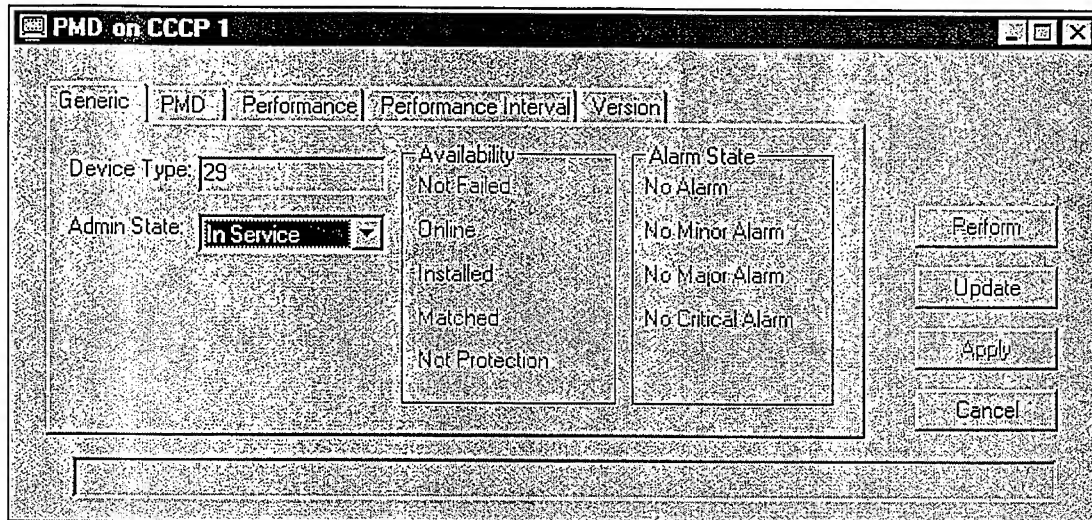

Figure 9. PMD Window
3. Double-click on the PMD icon to open the PMD window (see Figure 9).